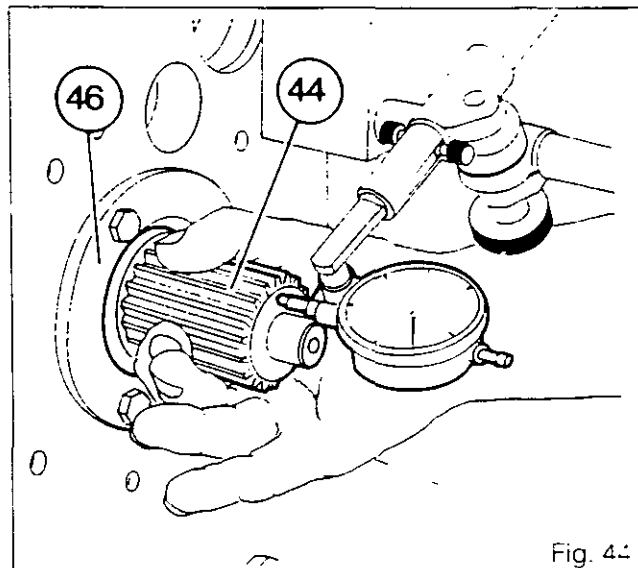

Fig. 44
147. Position the dial gauge pointer at the end of the shaft (44) (Fig.44).